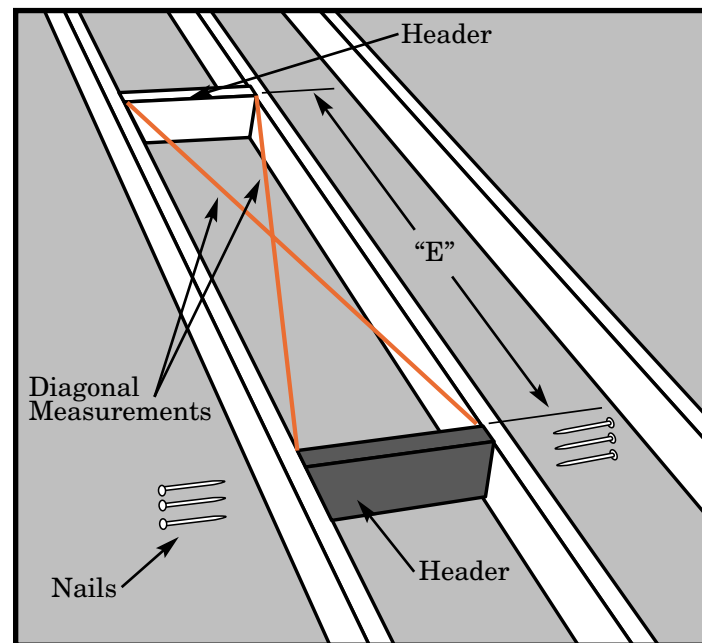

Figure 16
STEP 5. Position the second header “E” inches (see Table 3) from first one and repeat Step 4 (Figure 16).
STEP 6. The frame for the rough opening requires four sides. The headers make up two of those sides. If your ceiling joists are spaced so that they make up the other two sides of the rough opening, check the opening for squareness by measuring across the diagonals. The measurements should be within 1/8" to be considered square (Figure 16).